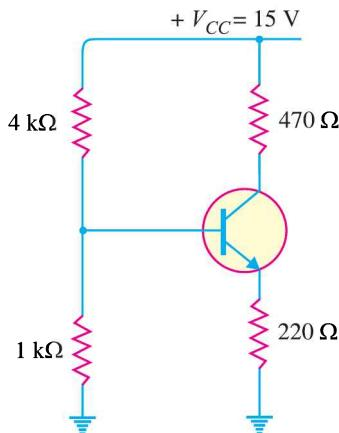

Fig. 9.50
7. In the transistor circuit shown in Fig. 9.50, find the operating point. Assume the transistor to be of silicon. $I_C = 10.5mA$, $V_{CE} = 7.75V$